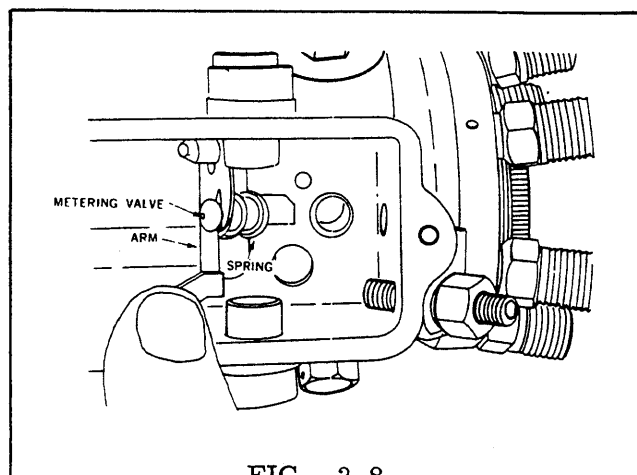

FIG. 3.8
STEP 8 Remove the metering valve assembly (Fig. 3.8).